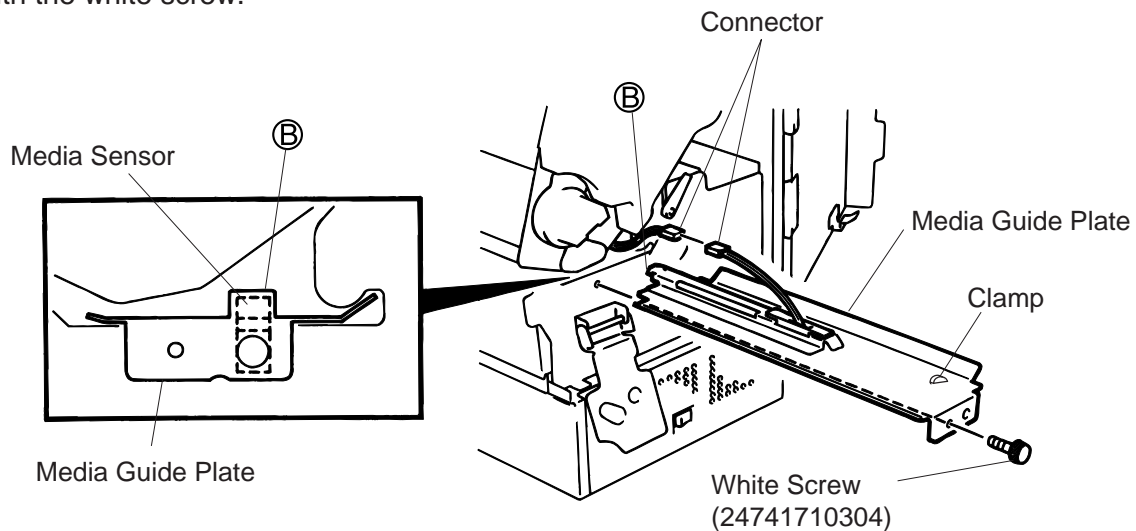

Fig. 11-5
3. Turn the head lever to position ③, " then release the head lock plate.
4. Remove the white screw, unclamp and disconnect the connector of the media guide plate, and then detach the media guide plate. (See Fig. 11-5.)
8. Place the portion ② of the media guide plate on the media sensor. Secure the media guide plate with the white screw.